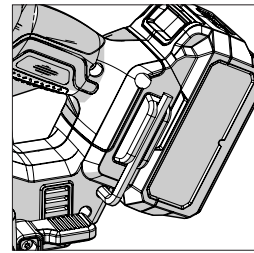

Fig. 1
- Locate the supplied Blade Change Hex Key which is housed in the onboard storage facility. **(Fig. 1)**